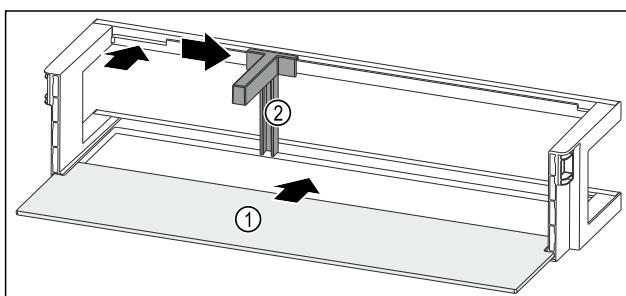

Fig. 125 Door rack with shelf
- ▶ Push the shelf Fig. 125 (1) into the side recesses.
- ▶ Insert the bottle holder Fig. 125 (2) in the recess.
- ▶ Push the bottle holder Fig. 125 (2) to the desired position to the side.